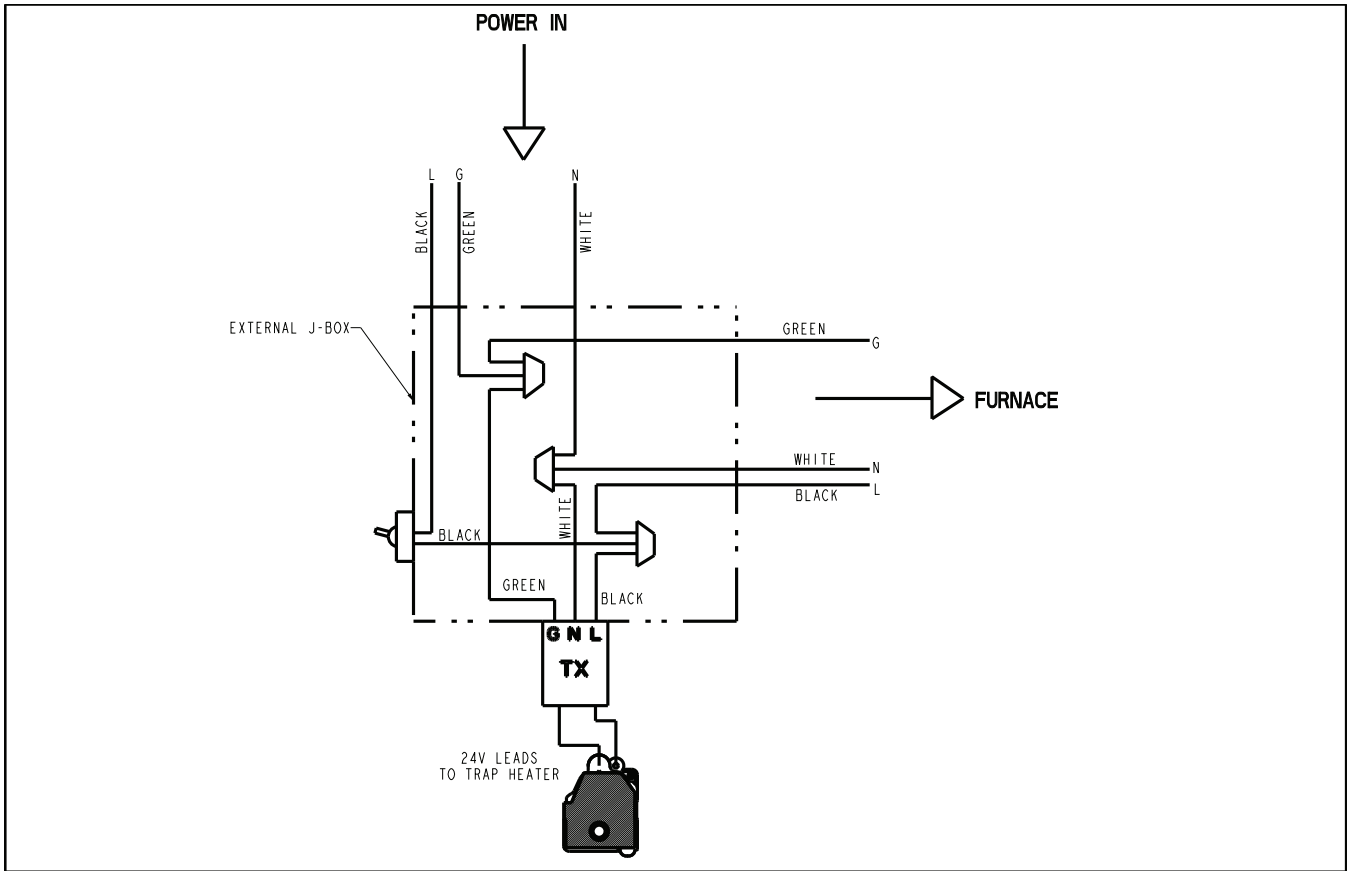

Fig. 1 - Wiring Schematic
5. Connect the 115 VAC wires for the transformer to the 115 VAC wires in the J-box. Connect the black wire to line voltage, the white wire to neutral, and the green wire to ground. See Fig. 1.